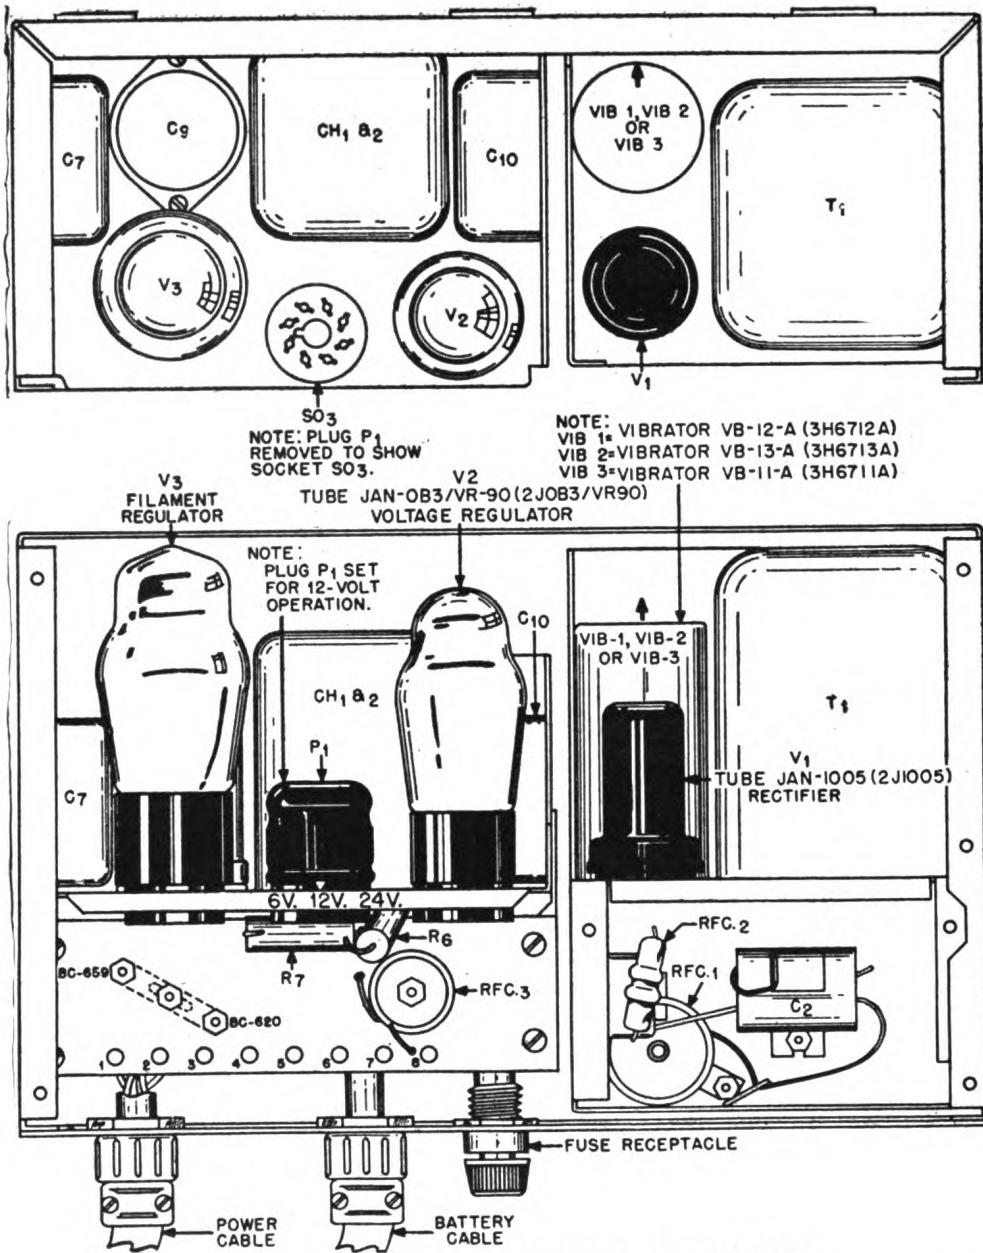

Figure 22. Power Supply Unit PE-120-A, interior detail.
- (1) Connect link to terminal marked BC-659 (fig. 22).
- (2) Select the correct vibrator for the voltage of the vehicular battery.
- (3) Insert the vibrator into its socket located behind retifier tube V1 next to transformer T1.
- (4) Insert voltage change-over plug P1 into the proper position for the vehicular battery